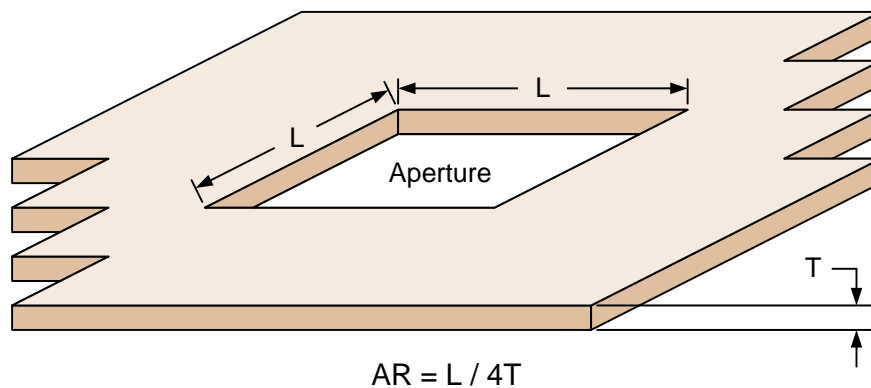

Figure 6-1 Area ratio (AR)
One key parameter that should be evaluated is the ratio of aperture area to sidewall area, known as the area ratio (AR). Square apertures are recommended for optimal solder-paste release. In this case, a simple equation can be used relating the side length of the aperture to the stencil thickness (as shown and explained in Figure 6-1). Larger area ratios enable better transfer of solder paste to the PCB, minimize defects, and ensure a more stable printing process. Inter-aperture spacing should be at least as thick as the stencil; otherwise, paste deposits may bridge.